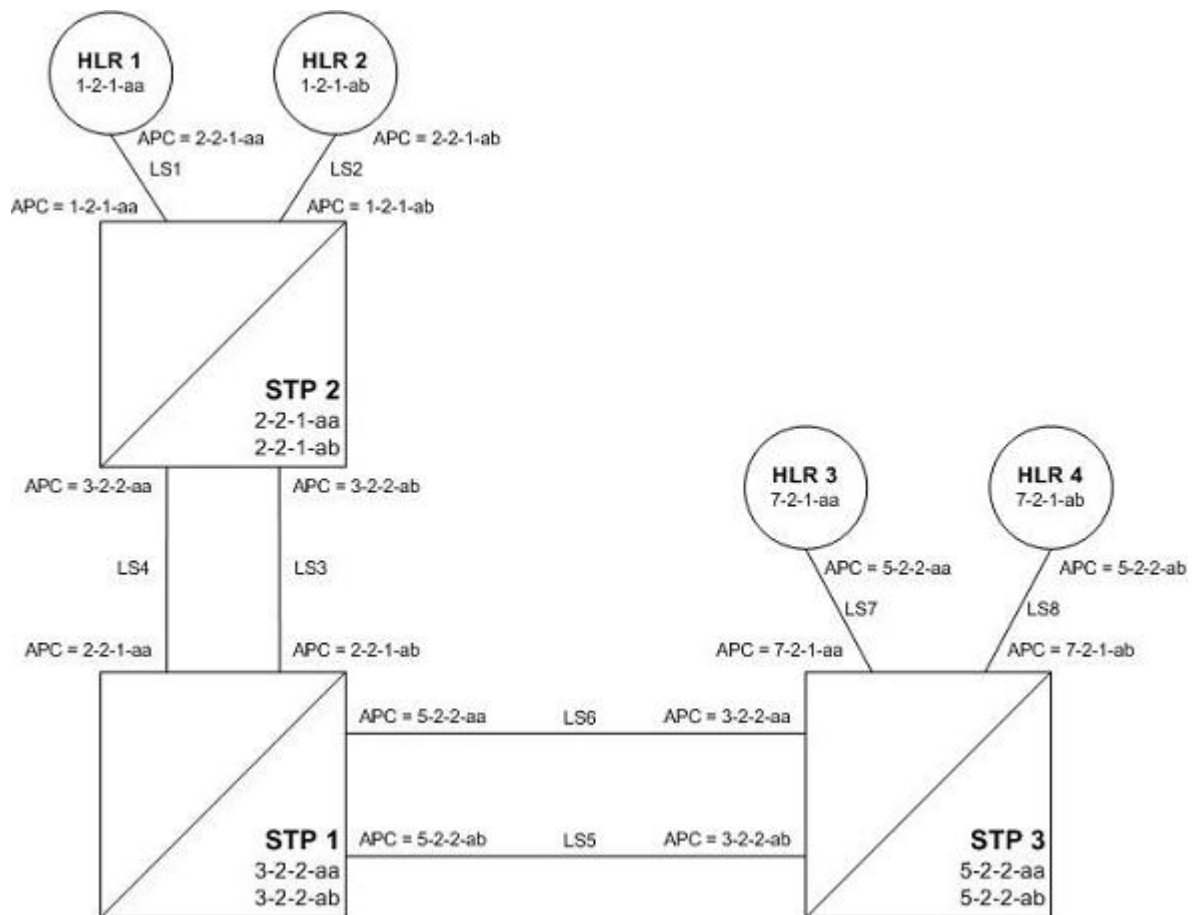

Figure 7: Example of an Existing Network that is not using the ITU National and International Spare Point Code Support Feature
*Figure 7: Example of an Existing Network that is not using the ITU National and International Spare Point Code Support Feature* shows an example network that is not using the ITU National and International Spare Point Code Support feature.